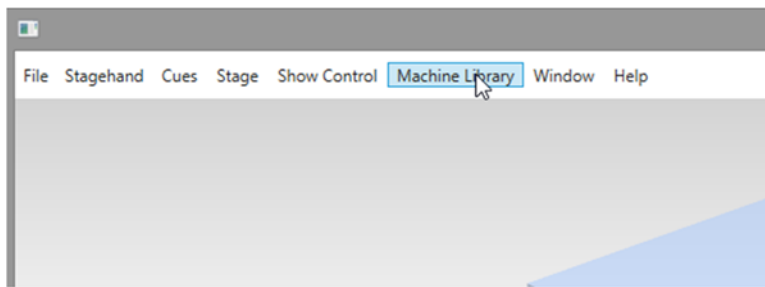

Figure 155
1. Click or tap the **Machine Library** menu (Figure 155).